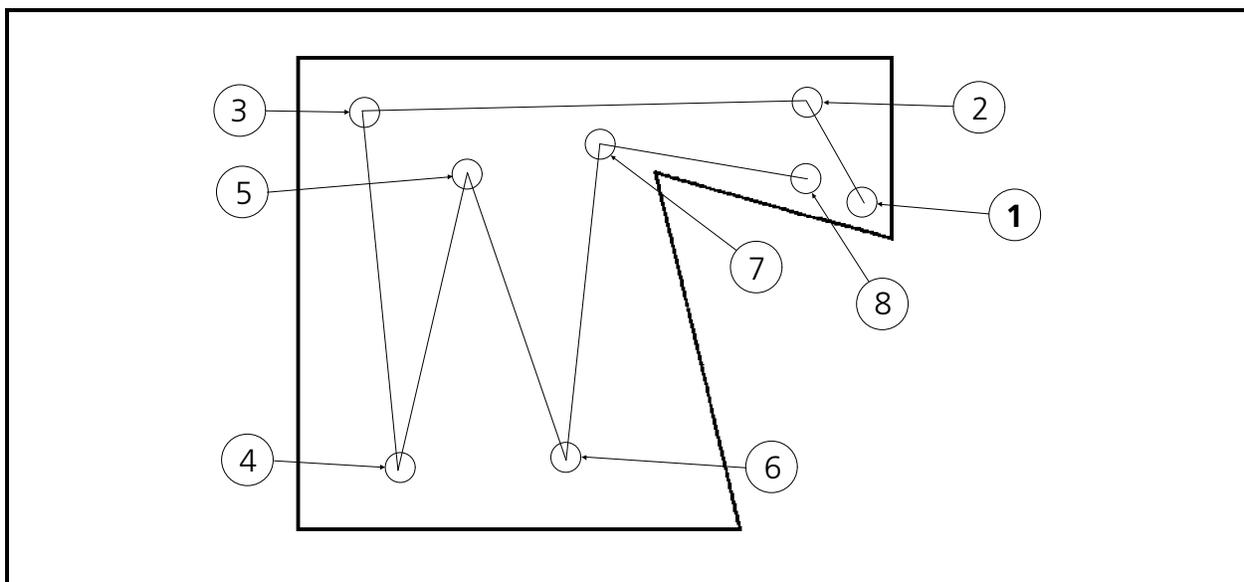

Figure 3-54
1. Remove the Melco artwork. Locate and attach the irregular shaped block artwork (see Figure 3-54) from the back of the manual.
5. Position the tablet cursor in the area in the shape identified as location 1 in Figure 3-54 and enter a Mk1.
7. Generate the routine lock stitches, then to keep the material from puckering or migrating during the fill stitching, put down a running stitch underlay by entering Mk1s at locations 2 through 8 as shown in Figure 3-54.